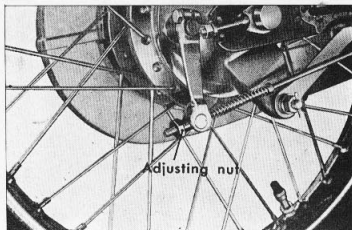

Figure 4-31. Adjusting the brake with adjuster nut
- (1) Install the tire flap so that it is positioned over the spoke nipples.
- (2) Install the tire and tube in the same manner as the front wheel.
- (3) Reassemble the rear wheel to the frame and fix in place with the axle and the axle nut.
- (4) Reinstall the rear brake torque link.
- (5) Reinstall the rear brake rod and adjust the play with the adjusting nut (Fig. 4-31)